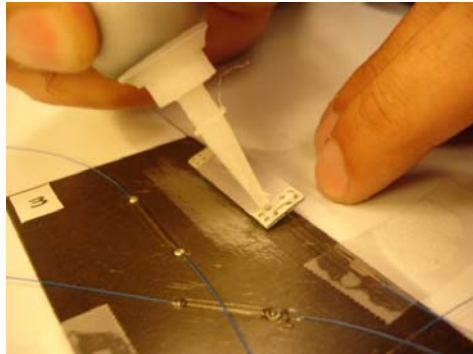

Fig. 2.4
- ▶ Apply the glue on the fixing area, carefully filling the sensor holes. Apply a small amount line of glue along the sensor (*Fig. 2.4*).